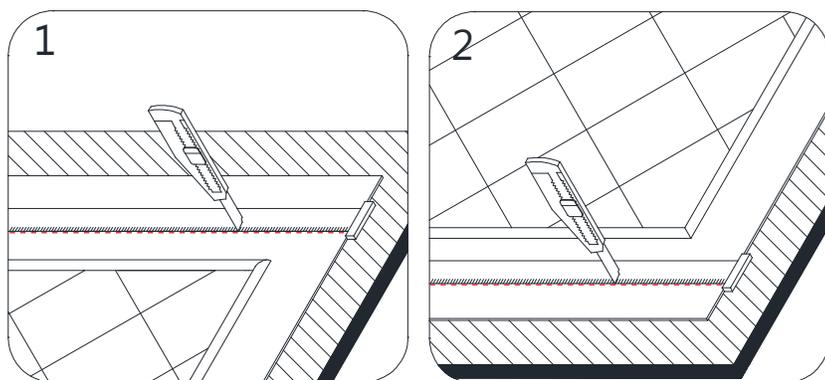

Fig 16a
16. Place the Side Panel (#02) onto a flat piece of plywood or particle board. Use a T-square and a sharp industrial knife to score along the cut lines (from the previous step) on the Side Panel (#02) and continue scoring until fully cut through the panel. (Fig 16a and Fig 16b)